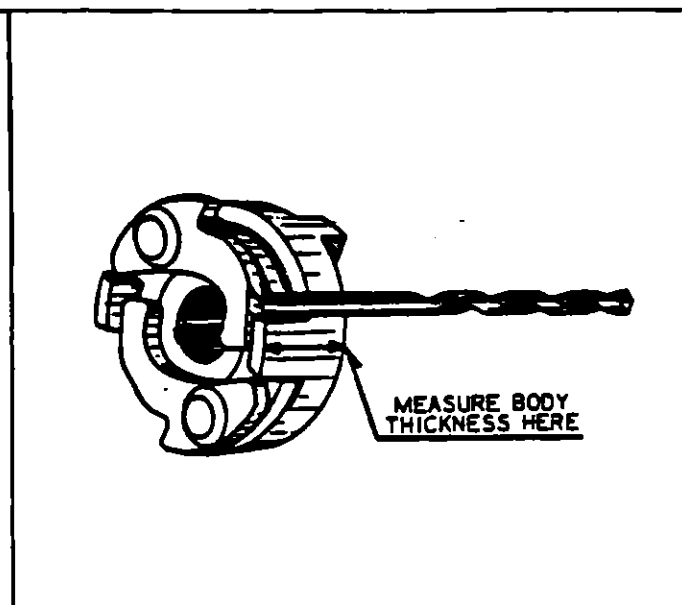

FIGURE 7-10. IMPULSE COUPLING
- i Inspect impulse coupling (21 magneto) flyweights for excessive looseness of the axles. Design couplings having .927 inch thick body should be checked with 1/8 inch drill. Couplings with .974 inch thick body are checked with a No. 18 drill. If drill fits between cam and flyweight the fit is too loose and coupling should be replaced. (Refer to Figure 7-10.)